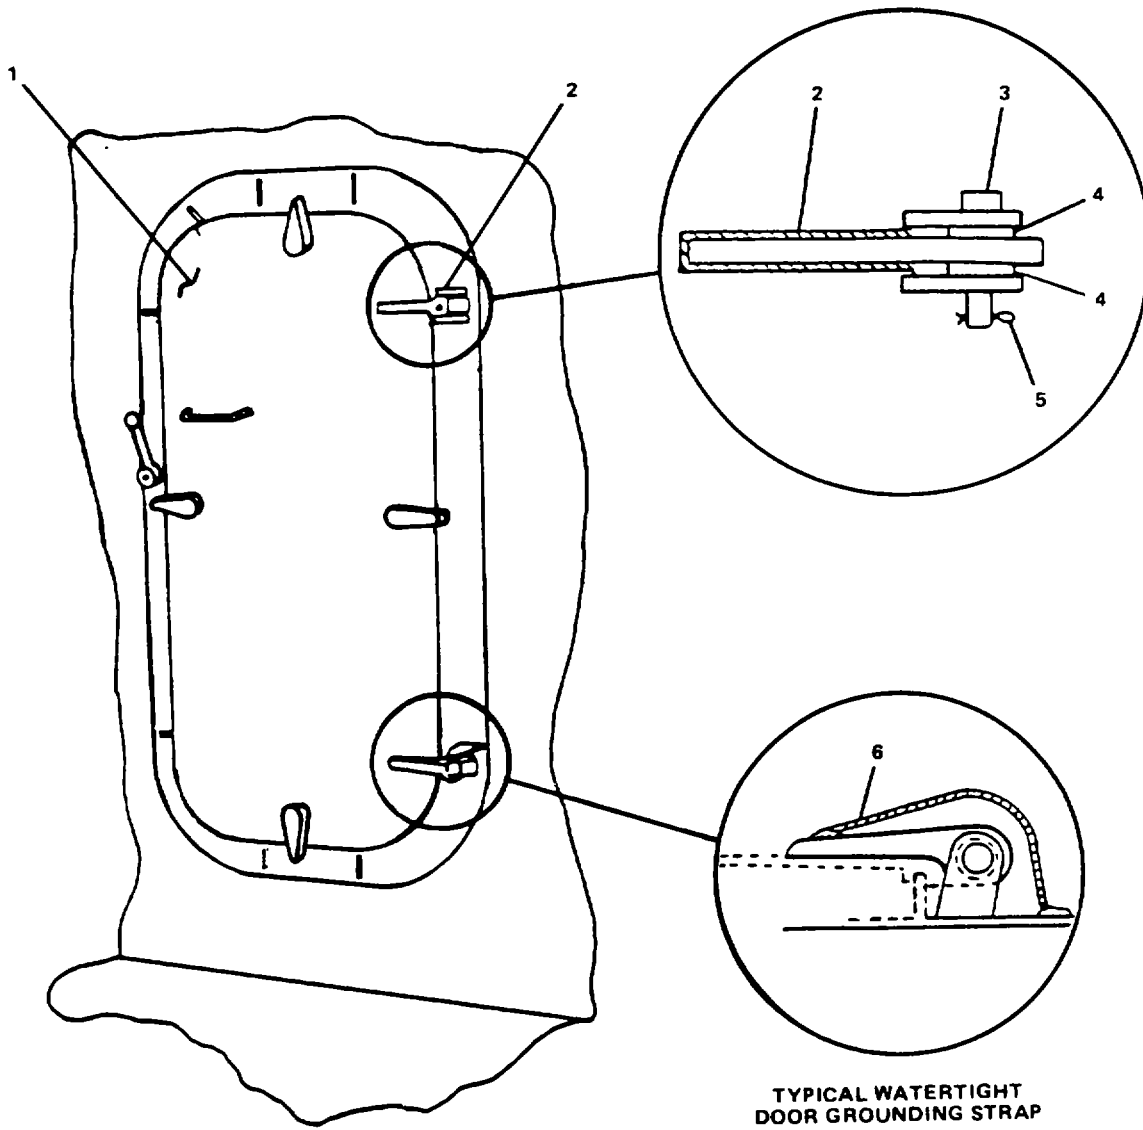

Figure 2-31. Replace Waternight Door.. Four Dogs.
a. Remove (if installed) grounding straps (6, Figure 2-31) from hinge blades (2) and from bulkhead.
- a. Place door (1, Figure 2-31) in position on frame.
- b. Install flat washers (4) and align holes.
g. Install (if removed in STEP a. of removal procedure) grounding straps (6, Figure 2-31) to hinge blades (2) and to bulkhead.
- a. Remove (if installed) grounding straps (6, Figure 2-31) from hinge blades (2) and from bulkhead.
- b. Open door (1).
- c. Remove cotter pins (5) from cylindrical pins (3).
- d. Remove cylindrical pins (3) from hinge blades (2).
- e. Remove flat washers (4) then remove door (1).